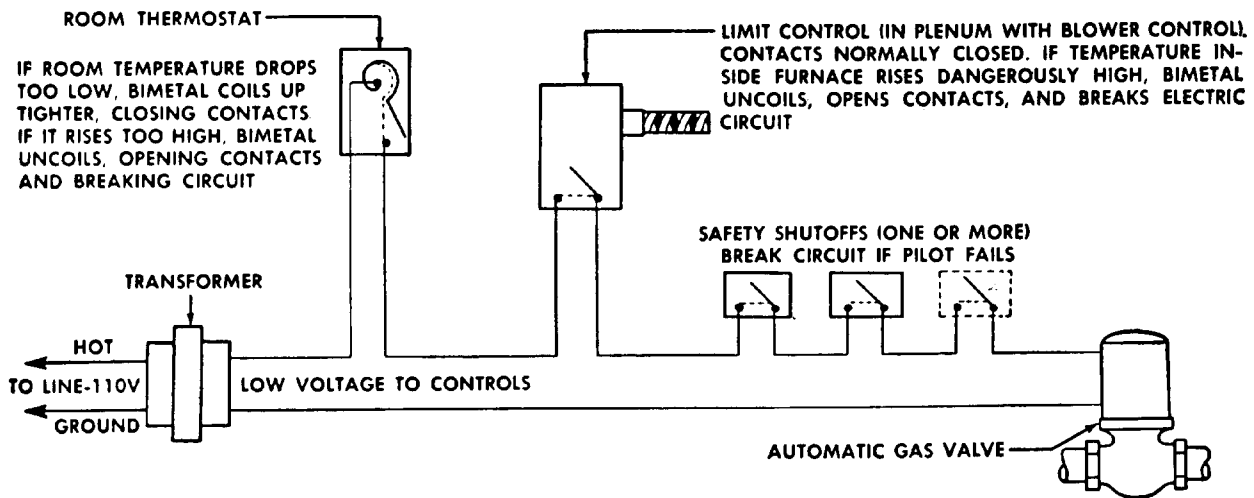

Figure 7-5. Gas burner primary control wiring.
a. The primary control for a gas burner is a valve which opens and closes in response to a thermostat. Figure 7-5 shows a typical wiring diagram for a gas burner primary control. There are basically four types of gas valves, each type having a number of varieties. The four types are described below.